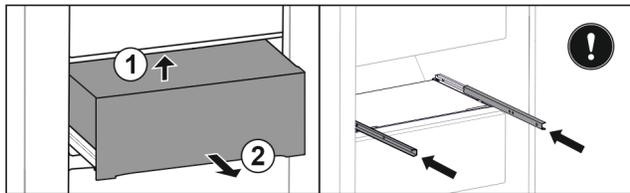

Fig. 121
- ▶ Lift drawer from below at the back. *Fig. 121 (1)*
- ▶ Remove drawer to the front. *Fig. 121 (2)*